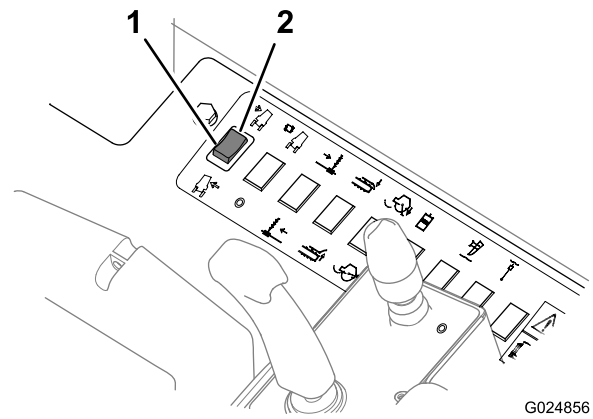

Figure 51
- Push the upper part of this switch down (Figure 51) to tilt the machine right for inclined terrain.
- Push the lower part of this switch down (Figure 51) to tilt the machine left for inclined terrain.